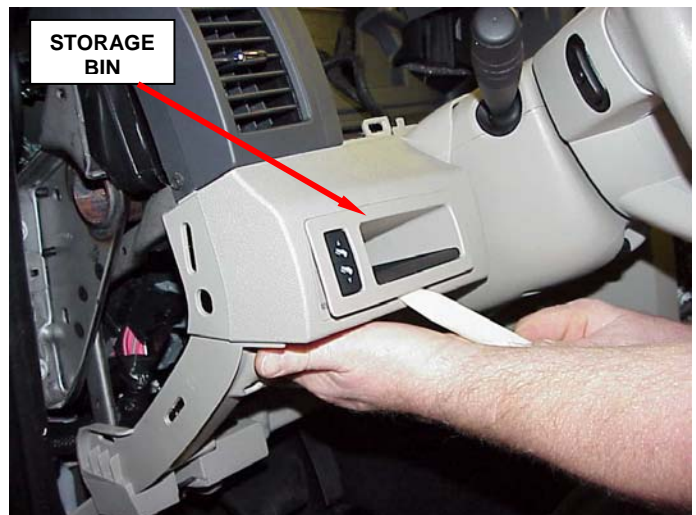

Figure 7 – Storage Bin Removal
21. Remove the instrument panel storage bin to gain access to an additional top cover retaining screw (Figure 7).
- 50. Install the instrument panel storage bin (Figure 7).